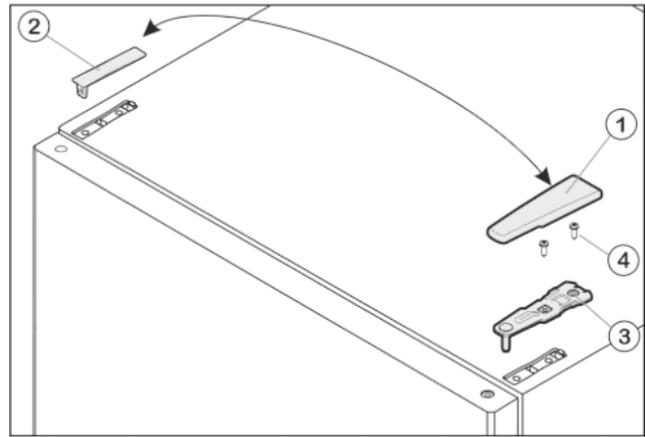

Fig. 7
- ▶ Pull off the cover Fig. 7 (1) forwards and upwards.
- ▶ Lift off the cover Fig. 7 (2).
- ▶ Unscrew the upper turn hinge Fig. 7 (3)(2x Torx® 25) Fig. 7 (4) and lift it off.
- ▶ Insert the upper turn hinge Fig. 7 (3) in the door on the new hinge side.
- ▶ Screw the upper turn hinge **firmly** into place (with 4 Nm) (2x Torx® 25) Fig. 7 (4). Possibly make preliminary holes with a bradawl or use a cordless screwdriver.
- ▶ Apply the cover Fig. 7 (1) and cover Fig. 7 (2) to the opposite side from the outside and snap them into place.